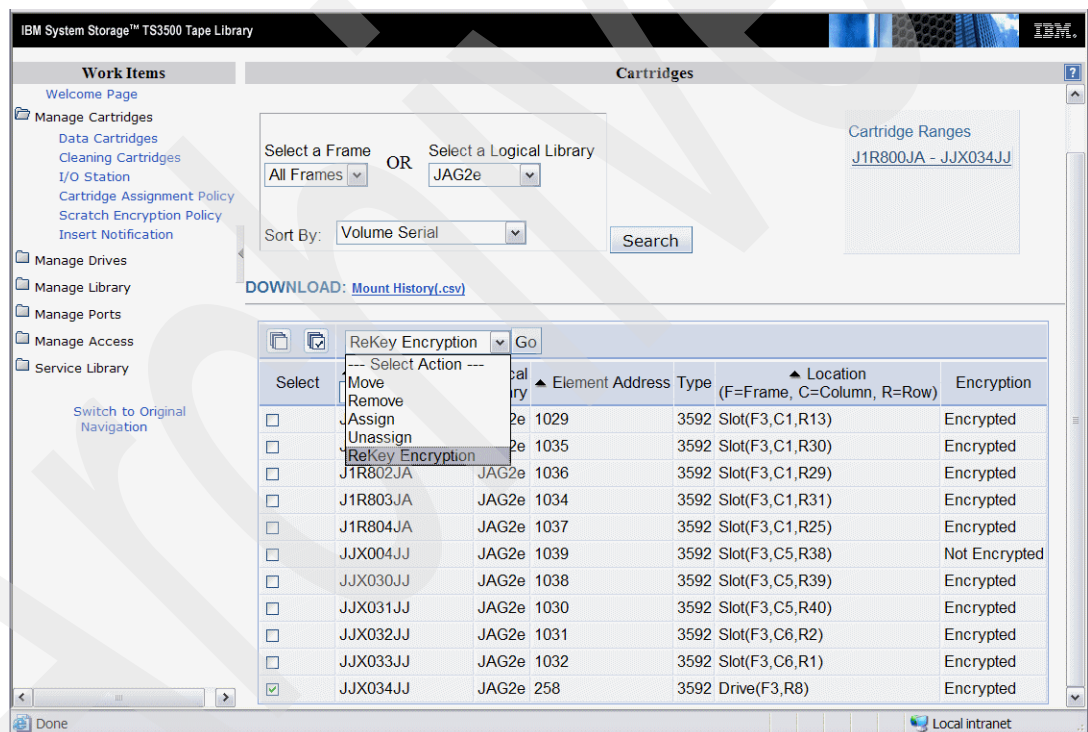

Figure 6-83 Selecting ReKey Encryption
2. Select the tape cartridge you want to rekey, select **ReKey Encryption** from the Select Action menu, and click **Go** (Figure 6-83).